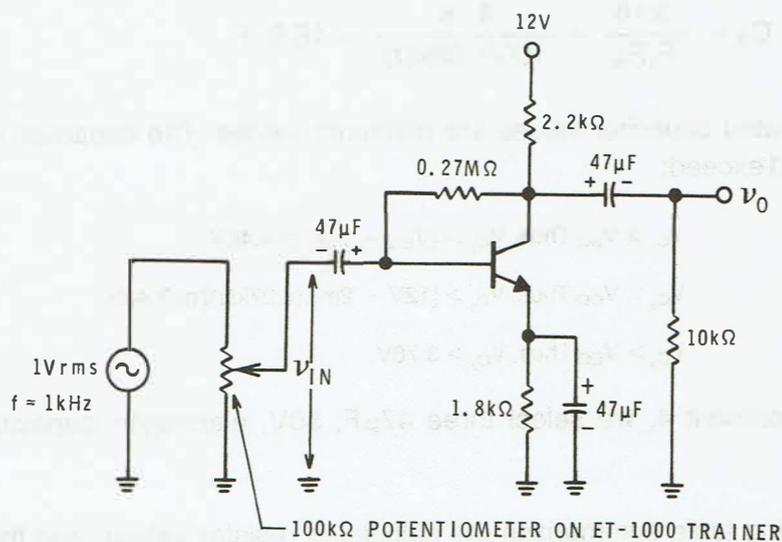

Figure E5-1
- With the power off, construct the circuit shown in Figure E5-1. Make sure the electrolytic capacitors are inserted with the correct polarity.
16. Assuming $100 \leq h_{FE} \leq 400$, calculate the minimum and maximum values you would expect for R_{IN} . Use the component values in Figure E5-1 for your calculations.